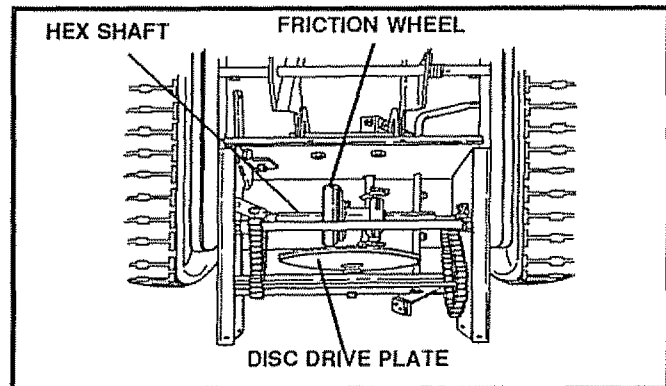

FIG. 16
- Hex Shaft and Gears - Hex shaft and gears require no lubrication. All bearings and bushings are lifetime lubricated and require no maintenance (See Fig. 16).
NOTE: For storage, the hex shaft and gears should be wiped with 10W-30 motor oil to prevent rusting (See Fig. 16).